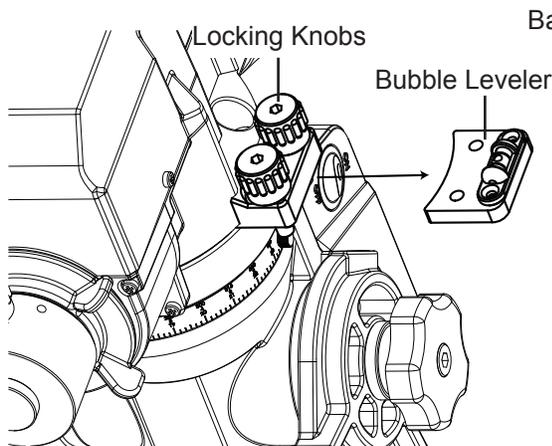
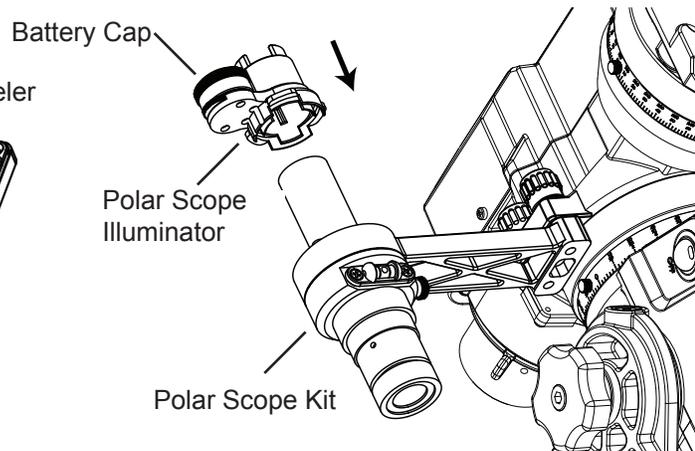

Fig. 3.1a
Fig. 3.1b
2. Loosen the two locking knobs to remove the bubble leveler (Fig. 3.1a) and replace it with the polar scope kit. Attach the polar scope illuminator to the front of the polar scope (Fig. 3.1b).
1. Loosen the locking knobs in Fig. 3.1a, level the bubble leveler on the polar scope kit, then tighten these knobs again.